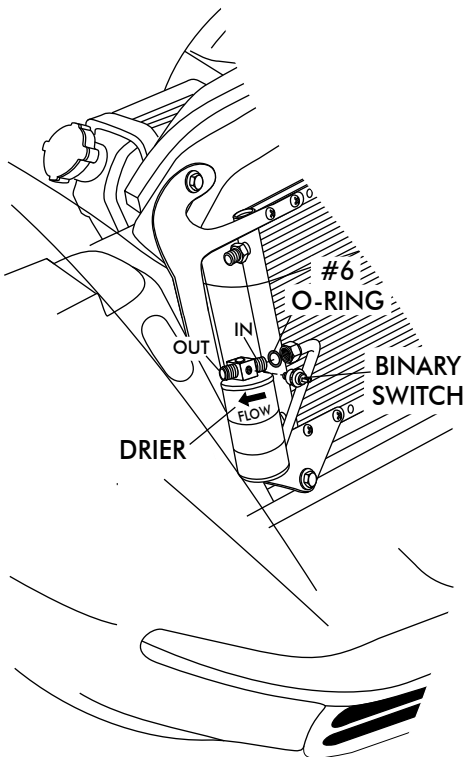

FIGURE 9
- ❑ LUBRICATE A #6 O-RING (SEE FIGURE 7a, PAGE 8) AND CONNECT THE #6 CONDENSER TO DRIER HARDLINE TO THE DRIER AS SHOWN IN FIGURE 9 BELOW. **NOTE: ONLY HAND TIGHTEN THE #6 HARDLINE.**
- ❑ INSTALL BINARY SWITCH ON DRIER AS SHOWN IN FIGURE 9.